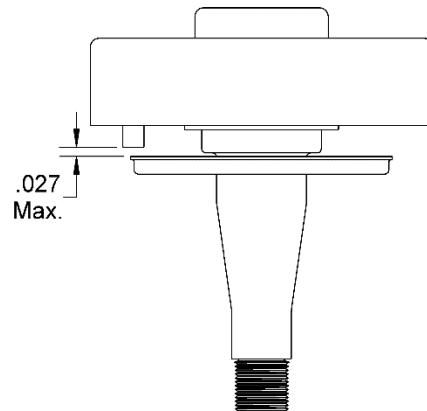

Figure 7 – ABS Sensor & Tone Ring Gap
8. Check physical gap between the sensor and tone ring (Figure 7). The brake drum must be removed to inspect gap. The maximum allowable gap is .027 inch. If the gap is greater than .027 inch, press on the wire lead end of the sensor and push the sensor into contact with the tone ring. Check that the ABS spring retainer and bushing are not unseated. Re-seat components as needed.